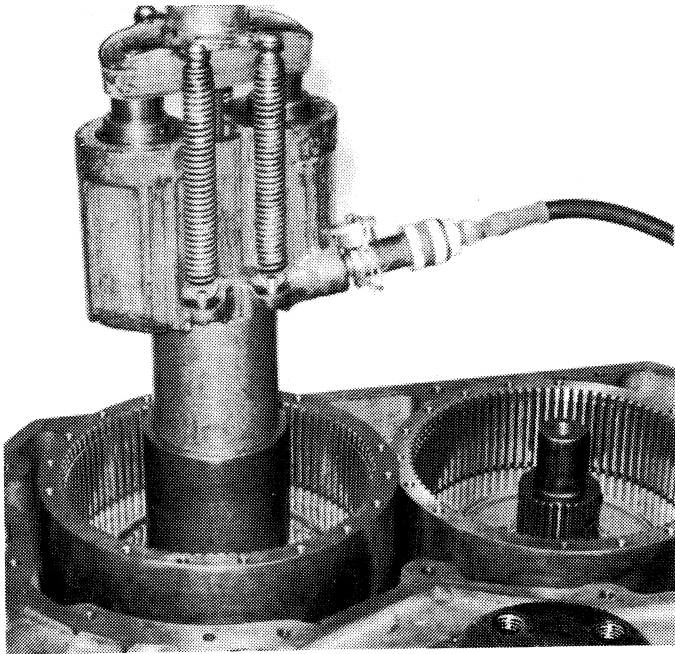

Figure 9-13. Installing Clutch Backplate and Drive Sleeve Assembly.
2. Use a portable hydraulic press to seat the assemblies. See Figure 9-13.